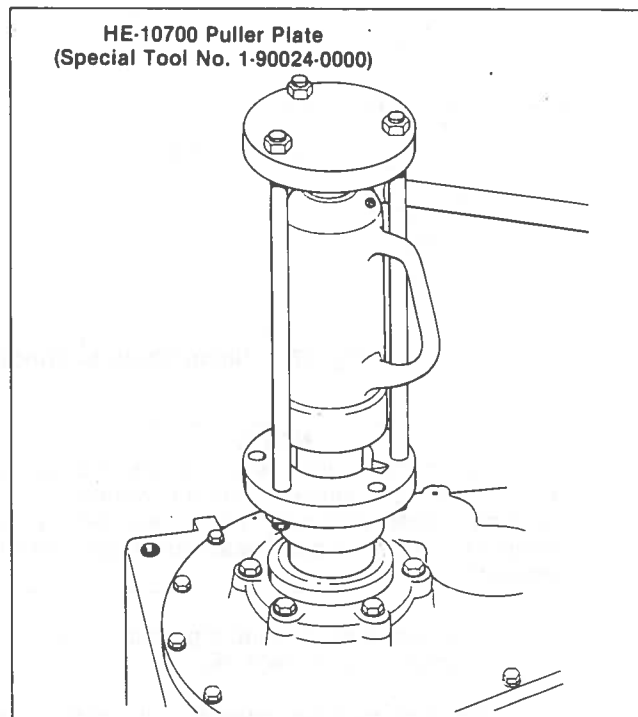

Fig. 26. HE-10700: Removing output coupling.
3. With suitable puller (common 3 jaw type for HE-10200 models; Special Tool No. 1-90024-0000 for HE-10700 models, see Fig. 26) remove output coupling from output shaft.